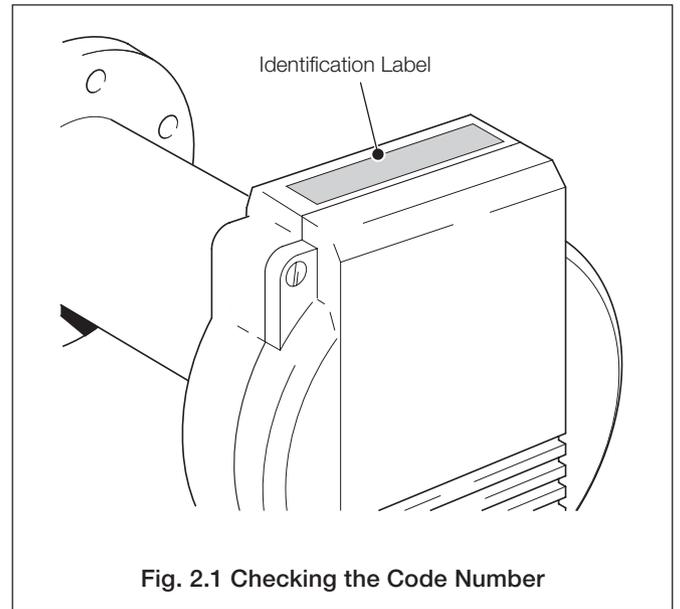

Fig. 2.1 Checking the Code Number
2.1 Checking the Code Number – Fig. 2.1
Ensure that the correct probe is being installed by checking the code number against Table 2.1 below. The identification label is fitted on the probe head – see Fig. 2.1.